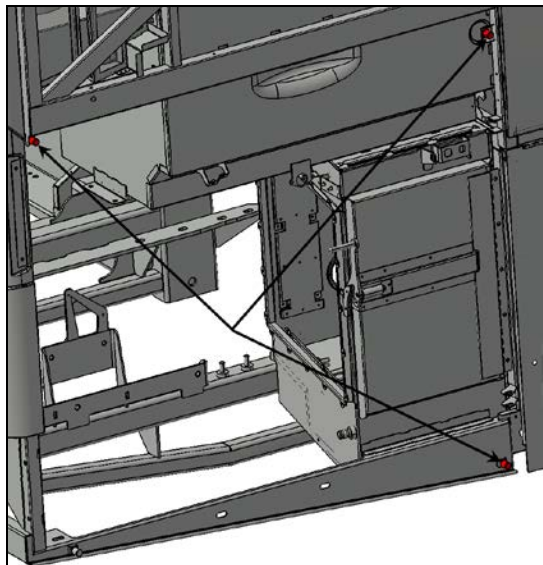
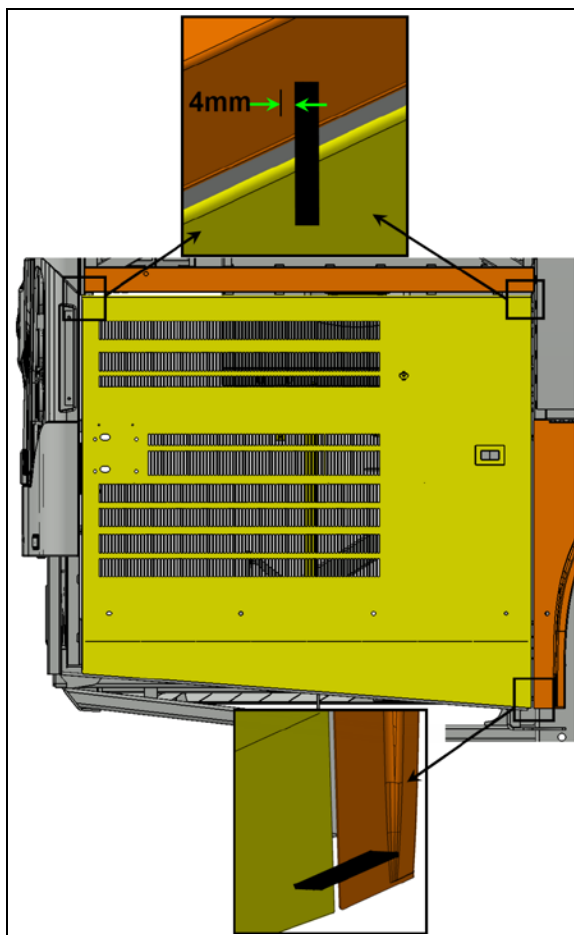

FIGURE 128
FIGURE 129
18. Screw in or out the two upper stoppers so that the upper part of the door exceeds the horizontal member by $5/32$ " to $3/16$ " (4mm to 5mm) (see FIGURE 128 & FIGURE 129).